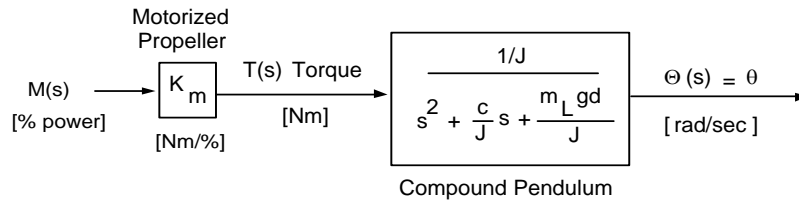

Figure 1-1b: Block diagram relating the motor power input $M(s)$, to the DCP's angle output $\theta(s)$
In block diagram form, (4) looks like **Figure 1-1b**. The torque $T(s)$ results from the thrust force applied to the DCP's lever arm r (i.e. the pendulum's length). This thrust is a result of a voltage applied to the motor-prop and prop size. The NXT Brick creates this voltage using a power command (in units of %) ranging from 0 to 100. Let $M(s)$ represent this motor power.